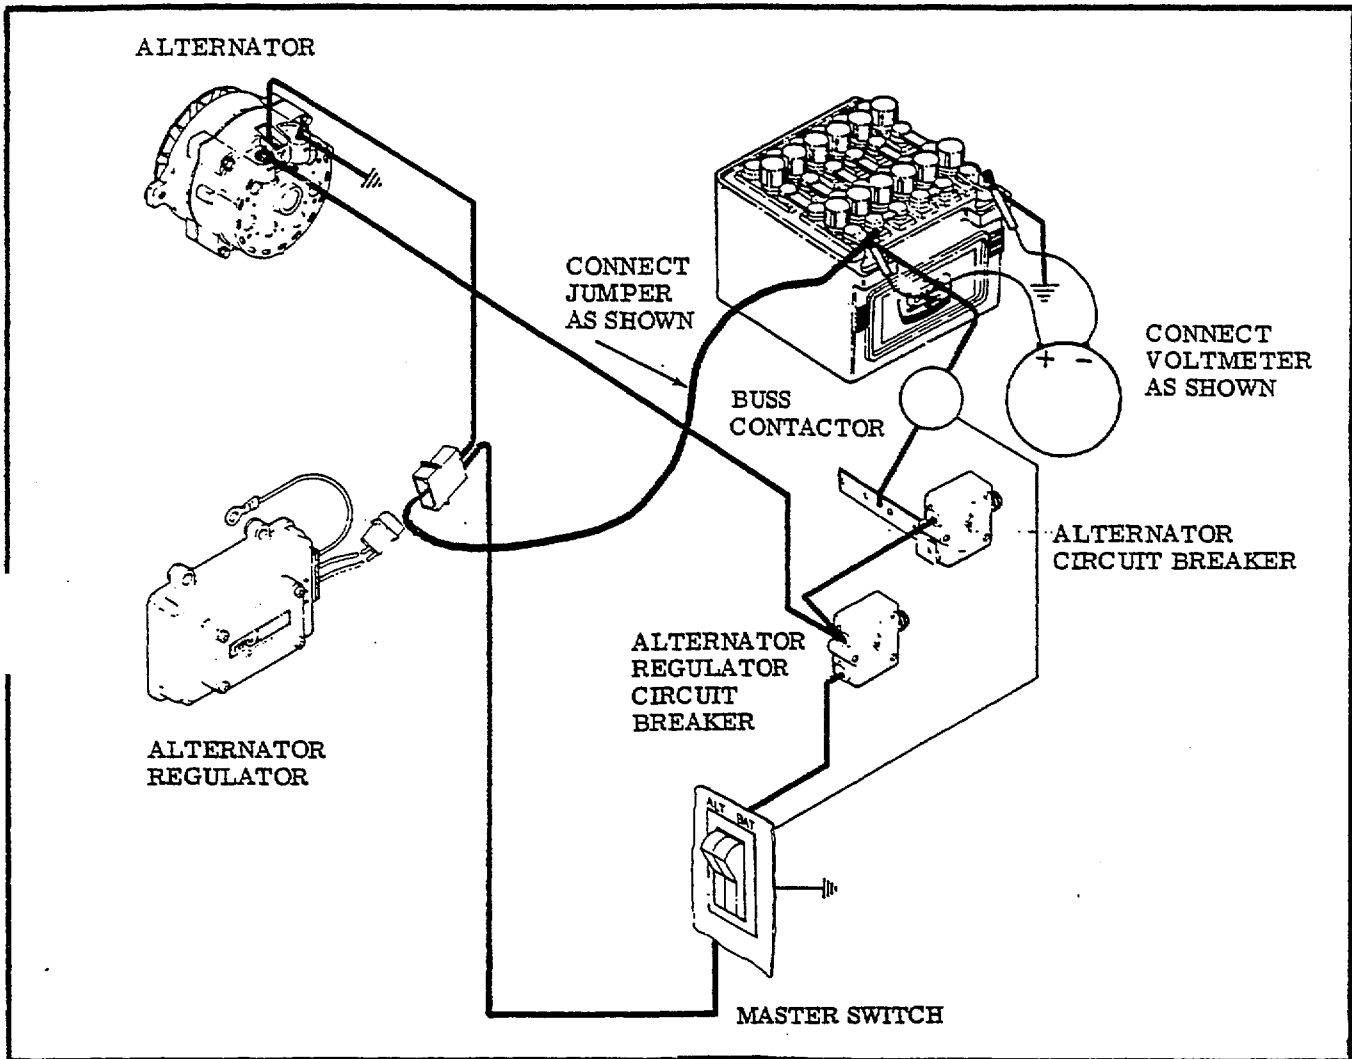

Figure 7-3. Isolating Regulator from Circuit
- a. Disconnect the regulator plug and install a jumper from the positive terminal of battery to pin 2 (F pin of regulator plug). Refer to Figure 7-3.